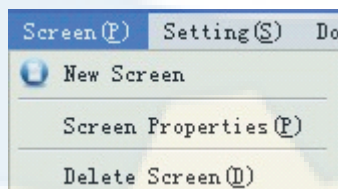

Figure 2-33: Screen menu
“Screen” menu consists of commands used for screen operation, including New Screen (N), Screen Properties (P) and Delete Screen (D). See Figure 2-33.